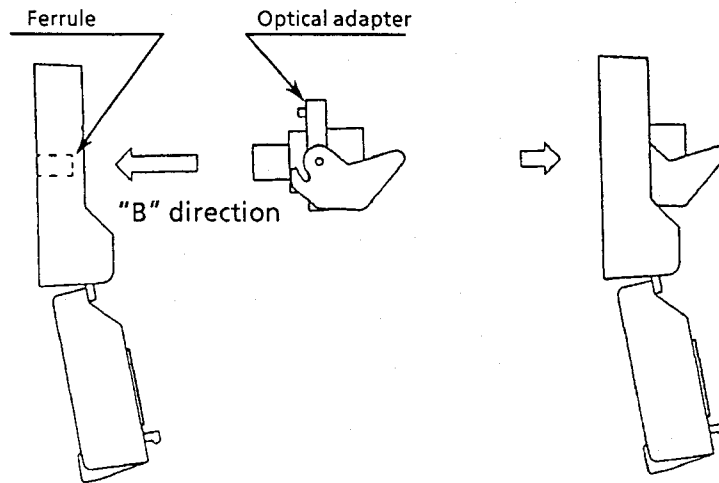

Fig. 5-4
4. Lifting up the lever, insert the optical adapter in the "B" direction until it touches the ferrule of the built-in optical fiber. At this time, pay sufficient attention to align the hole in the equipment and the guide pin of the optical adaptor so as not to damage the ferrule end (see Fig. 5-4).